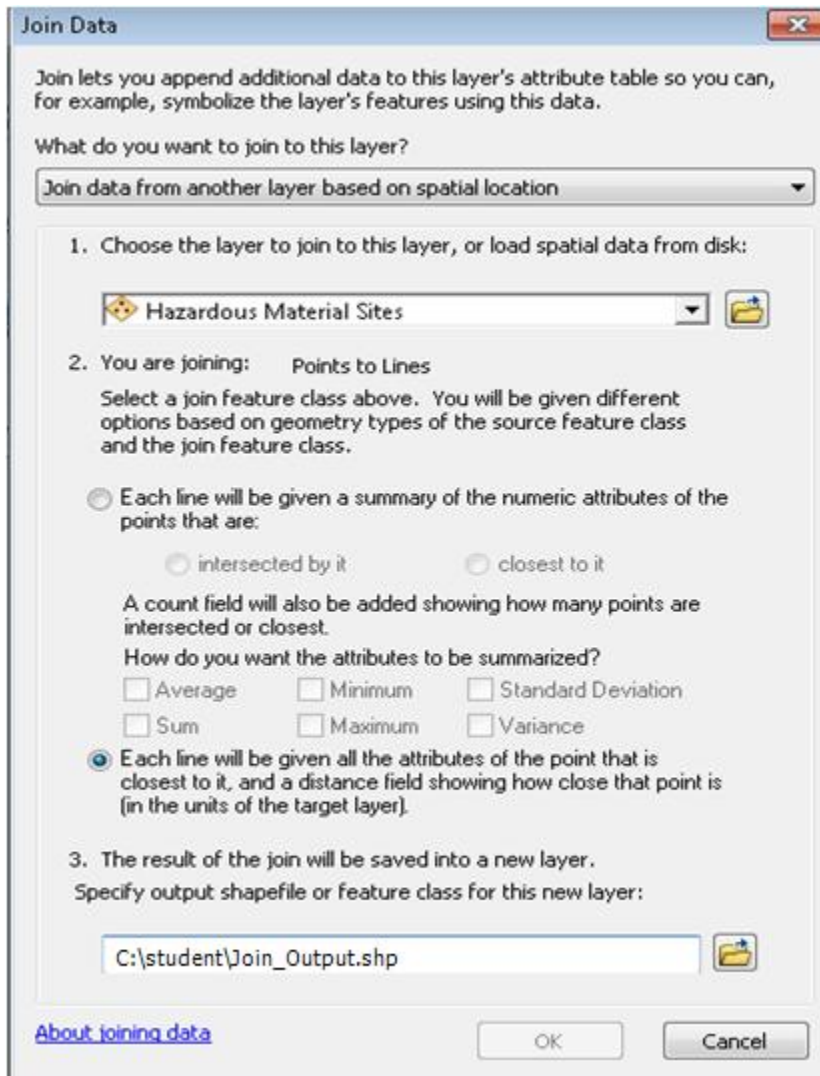

Figure 8. Using a spatial join to find the closest hazardous material site for each cave
- 1 Right-click *Caves* » *Joins and Relates* » *Join*. Select *Join data from another layer based on spatial location* (figure 8). Use *Hazardous Material Sites* as the layer to join with this layer. Select the choice that says that each line will be given all the attributes of the point that is closest to it and a distance field showing how close that point is. Make sure the new shapefile (Join_Output.shp) is saved in your student folder.